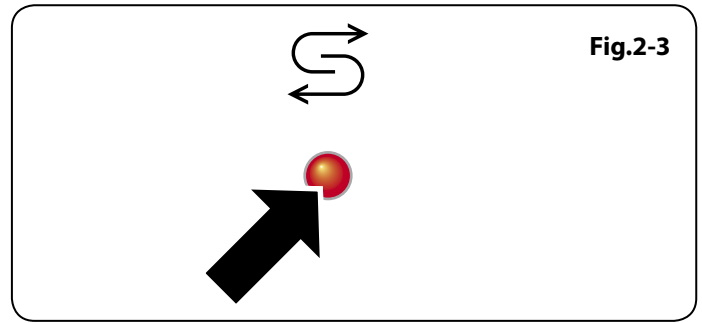

Fig.2-3
1. When the low salt indicator (**Fig.2-3**) lights, you must fill the salt. Remove the lower rack and then unscrew and remove the cap from the salt container.